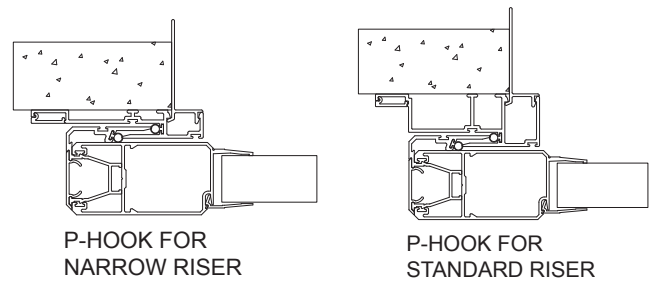

Figure 14
11. The P-hook is not notched and sits on top of the sill and just under the header. There are two types of P-hooks, one for the narrow sill riser and one for the box (standard) riser. (See Figure 14)